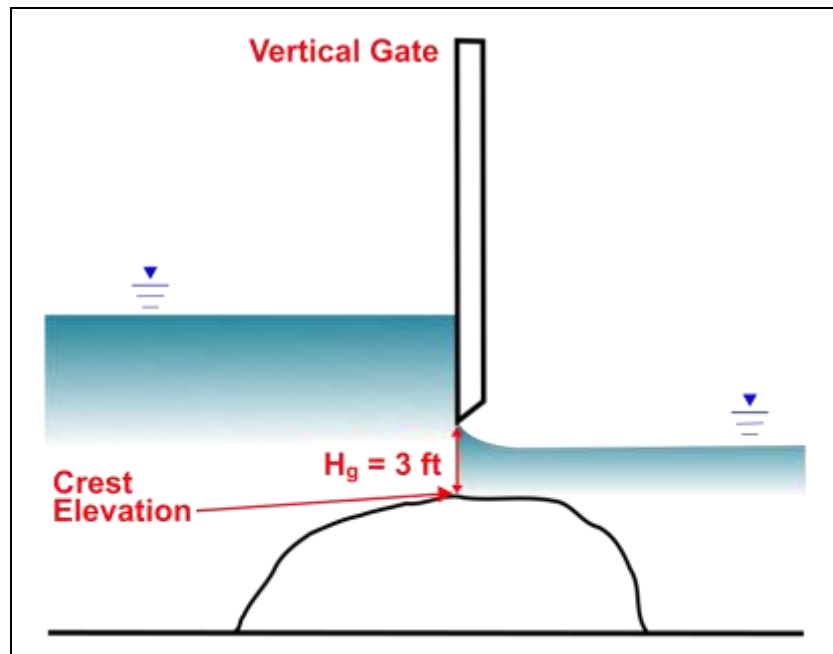

Figure 4 Height of gate opening
7. Enter “3” in the *Height of gate opening* field. This represents the opening measured vertically from the base of the structure to the top of the gate opening as shown in Figure 4.